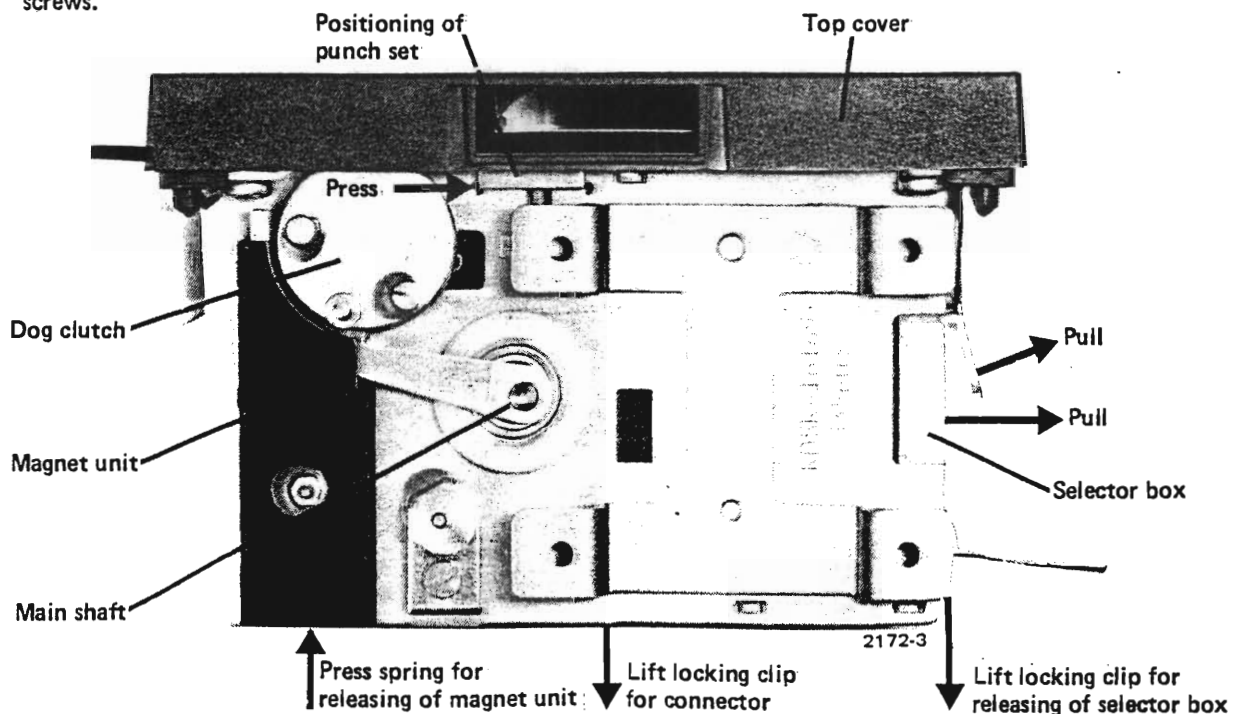

Fig. 6.5 Removing the punch mechanism's top cover
##### *Removing the Top Cover (Fig. 6.5)*
##### *Removing the Selector Box (Fig. 6.5)*
- Grasp the selector box by its two serrated tabs (Fig. 6.5), and slide it out while depressing the locking clip.
##### *Removing the Punch Set (Fig. 6.5)*
##### *Removing the Main Shaft (Fig. 6.5)*
*Removing the Dog Clutch (Fig. 6.5) \**